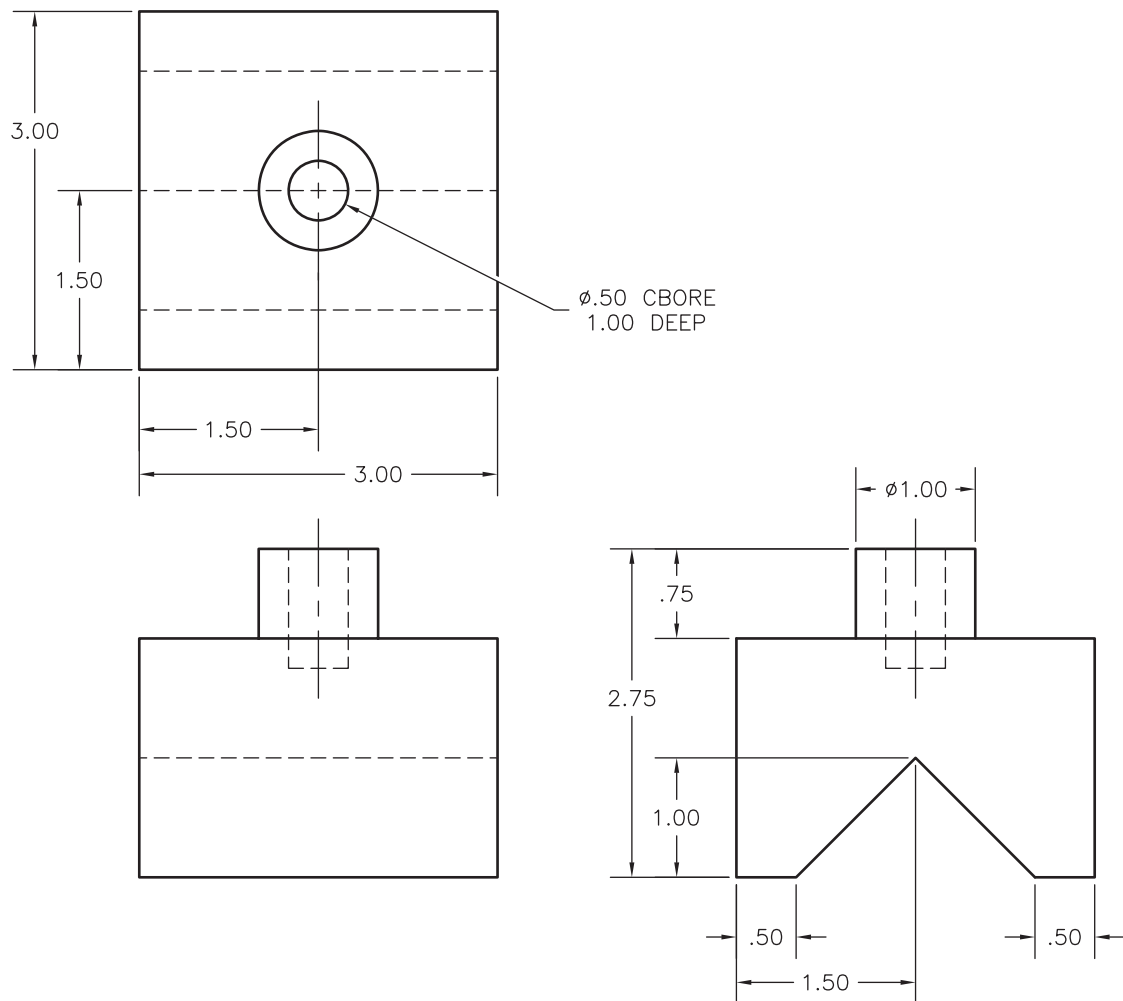

Fig. 44-11
4. Draw a 3D model of the height gage shown in Fig. 44-11 using the **EXTRUDE** command and Boolean operations. Can you use a box or a wedge to create the V-groove? Why or why not? Save the drawing as **ch44htgage.dwg**.